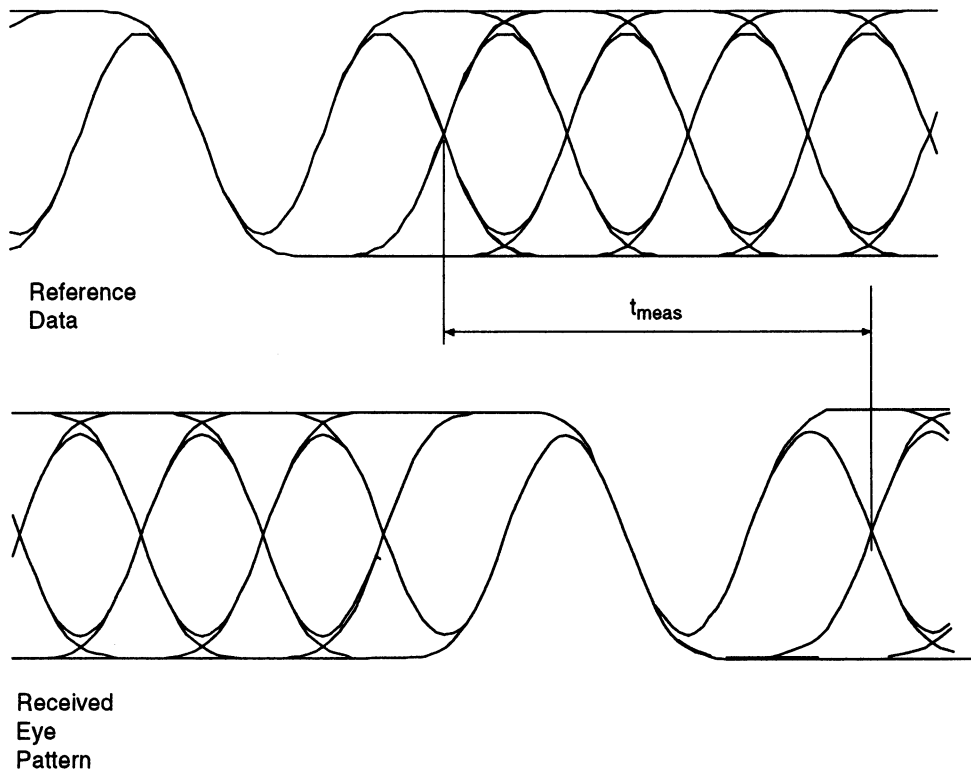

Figure 33. Two-Level Time Delay Measurement #2
- Step 31. Select the scope timebase so the oscilloscope looks similar to Figure 33.